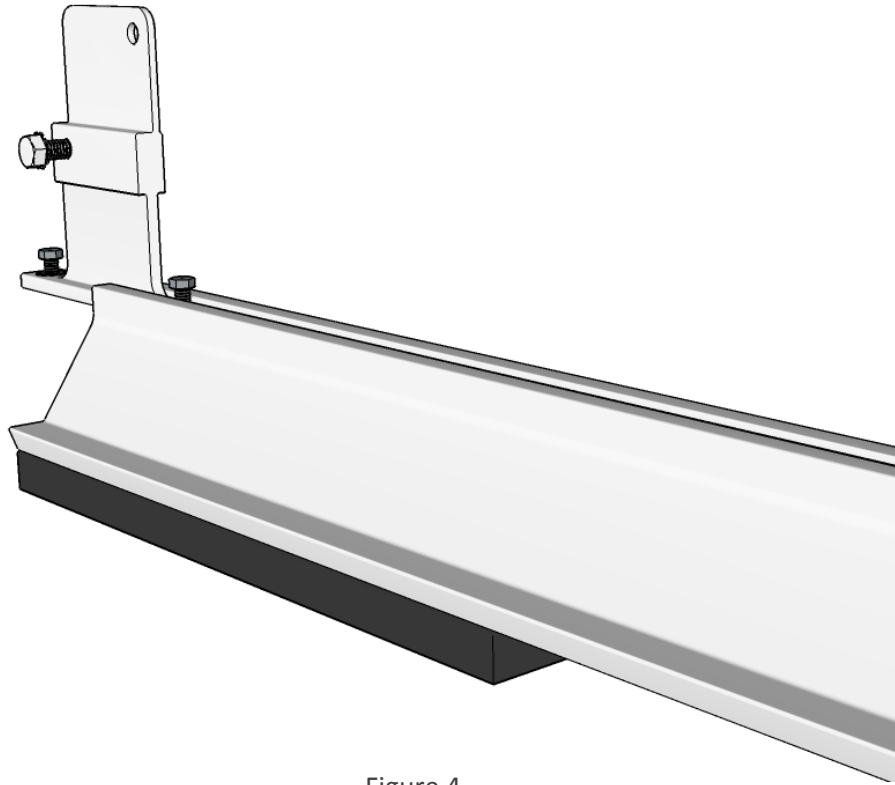
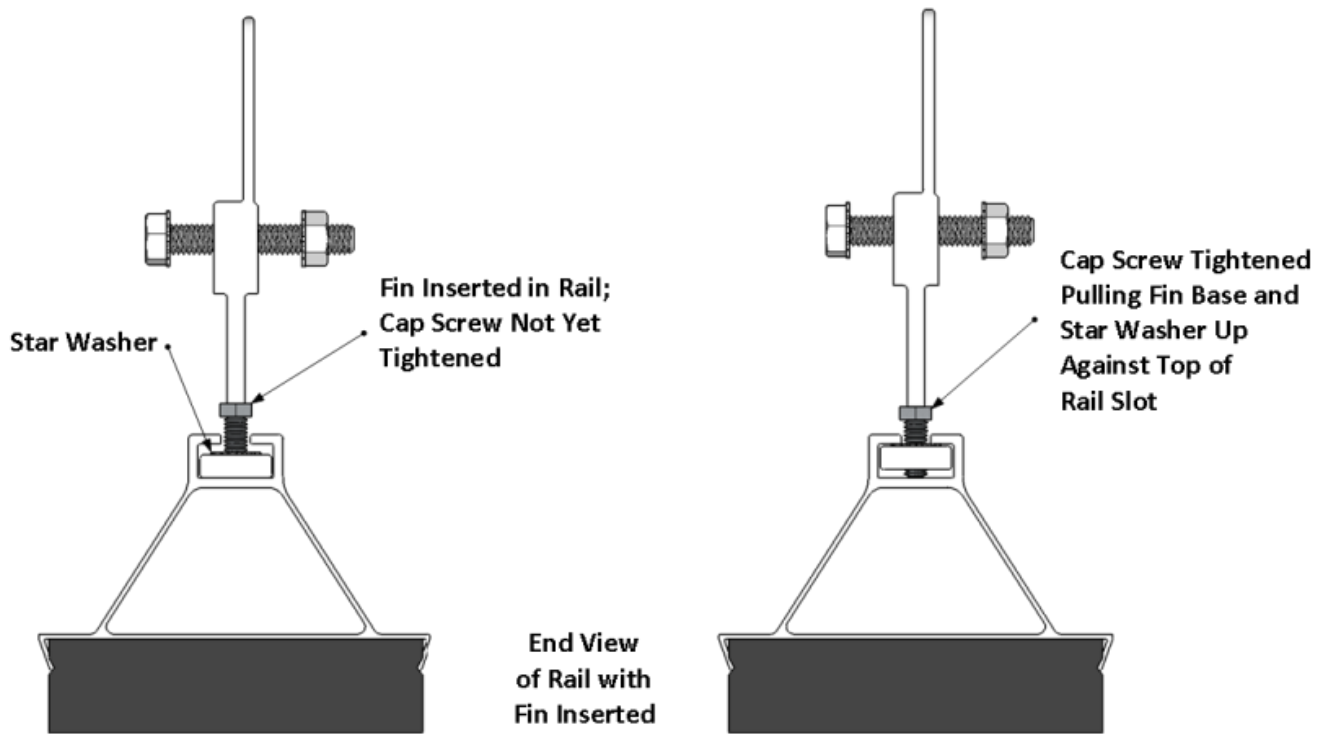

Figure 4
Figure 5
Step 2: Insert a Fin – Figures 4 and 5
The fin comes preassembled with two 1/4"-20 x 5/8" cap screws with star washers and one 5/16"-18 x 2" tap bolt with a combo star washer-hex head nut. It is used to connect the rails. Slide the base of a fin 2-1/2" (64 mm) (about half way) into the end of a rail. See Figure 4. **The hole with the 5/16"-18 x 2" tap bolt should be to the back, north, end of the array.** Allow the star washer to slide into the rail with the fin foot. The star washer is an integral part of the electrical grounding system. Tighten the 1/4"-20 x 5/8" cap screw to 6 ft-lbs (8 N-m). Note that the screw will bottom out and form a dimple in the rail slot floor and pull the fin and star washer up as shown in Figure 5. It is not advised to tighten, loosen, and re-tighten the 1/4"-20 x 5/8" cap screw – for instance if disassembling, moving, and then re-assembling an array – more than five times without replacing the rail.